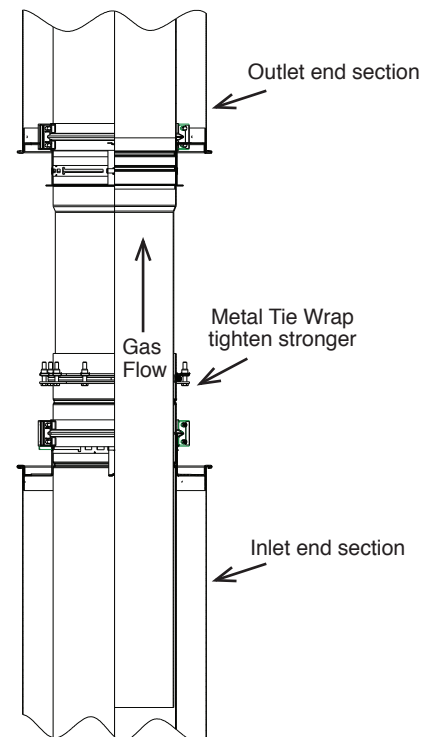

Figure 17 - Installation of Adjustable Length Steps 3 & 4
4. Strongly tighten the metal tie wrap so that the graphite packing is firmly compressed against the inner flue. See **Figure 17**.